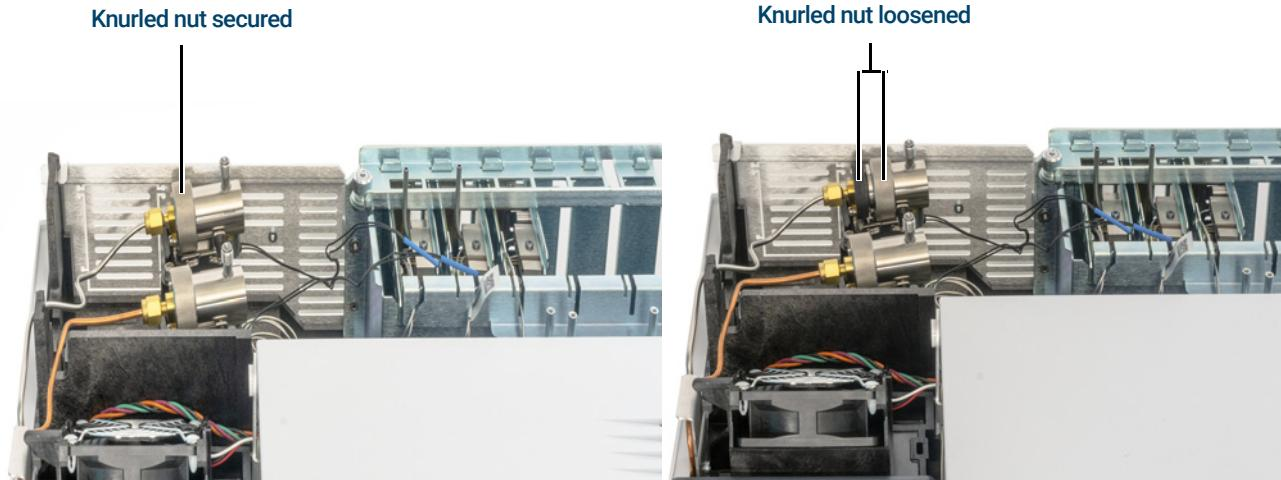

Figure 30. Loosen knurled nut
- 4 Completely loosen the knurled nut that secures the split vent trap in place as shown in Figure 30.